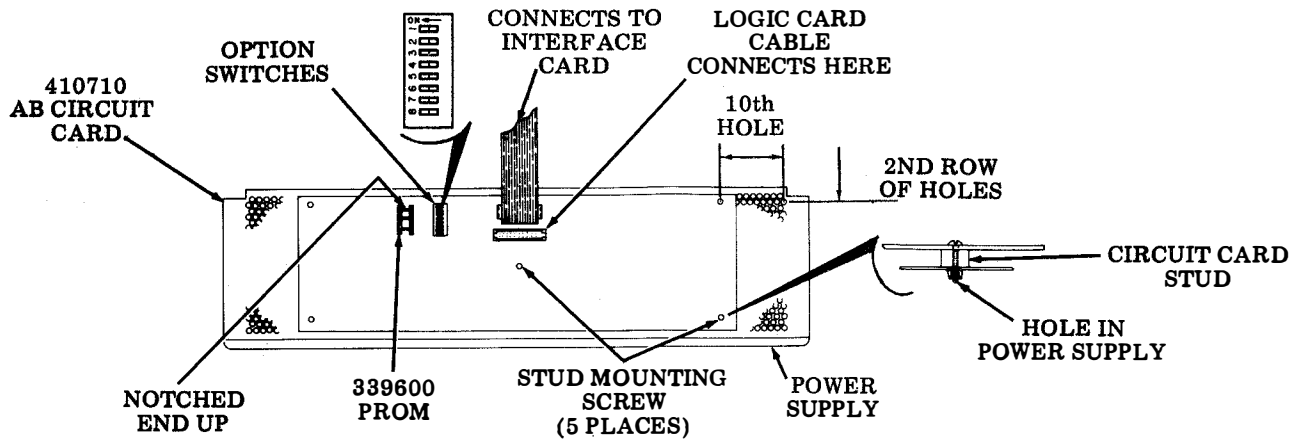

Fig. 5-Front View
2.10 Engineering options can be implemented in the field by means of switches on the 410710 circuit card using instructions provided with the answer-back kit. See Fig. 5 for location.
2.16 The 410710 circuit card is fastened to the front face of the power supply using five mounting studs. Start screws in studs first then align with pins in power supply as shown before pressing into position. Tighten screws to permanently secure studs. (See Fig. 5.)